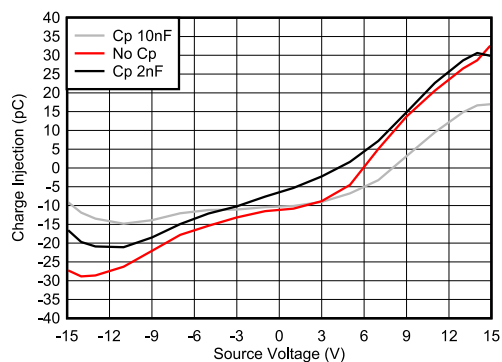

図 8-2. Charge Injection Compensation
The TMUX720x contains specialized architecture to reduce charge injection on the Drain (D). To further reduce charge injection in a sensitive application, a compensation capacitor (C_p) can be added on the Source (S_x). This will ensure that excess charge from the switch transition will be pushed into the compensation capacitor on the Source (S_x) instead of the Drain (D). As a general rule of thumb, C_p should be 20x larger than the equivalent load capacitance on the Drain (D). Figure 8-2 shows charge injection variation with different compensation capacitors on the Source side. This plot was captured on the TMUX7219 as part of the TMUX720x family with a 100pF load capacitance.